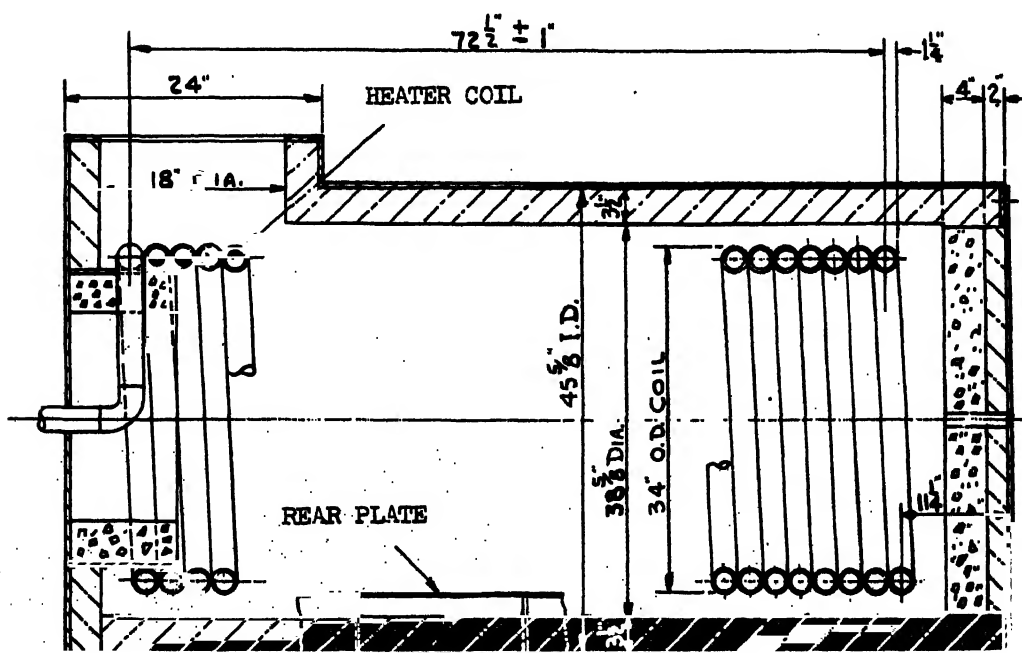

FIGURE 62. INTERNAL ASSEMBLY OF HEATER
- a. Refer to Fig. 62 and install the heater coil and rear plate.